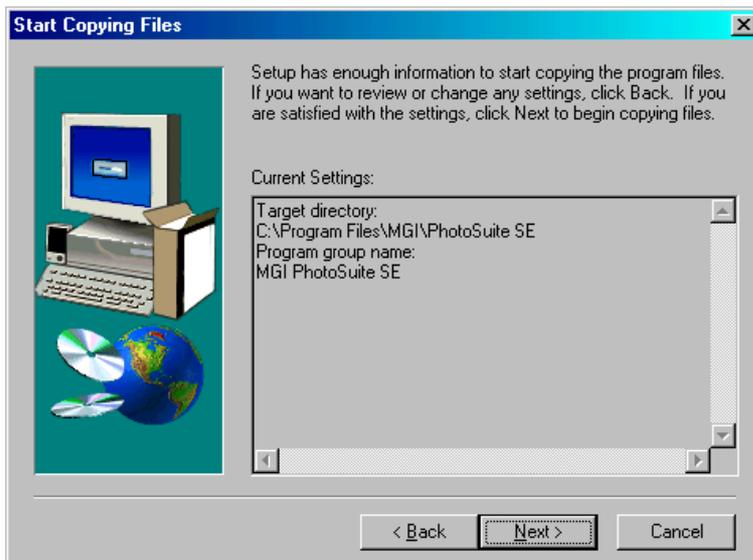

Figure 12: Installing MGI PhotoSuite SE
- Click on 'Next'. Figure 12 will appear.